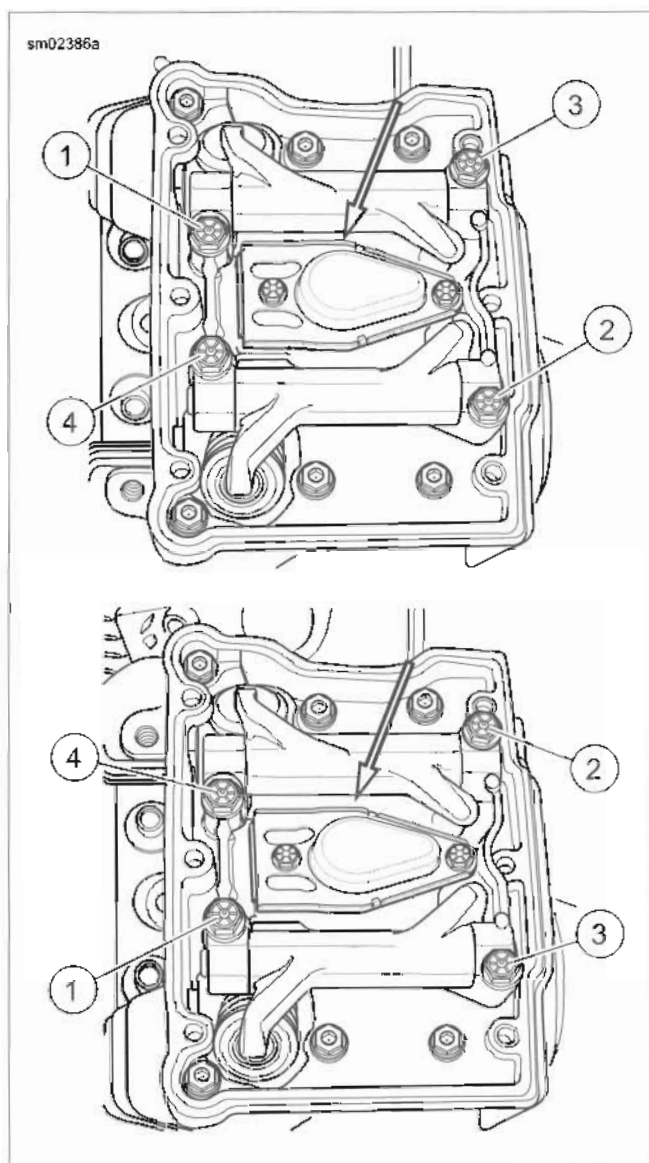

Figure 3-20. Rocker Arm Support Screw Sequence
5. See Figure 3-20. Remove breather assembly (arrow) and filter element from the rocker arm support plate. For